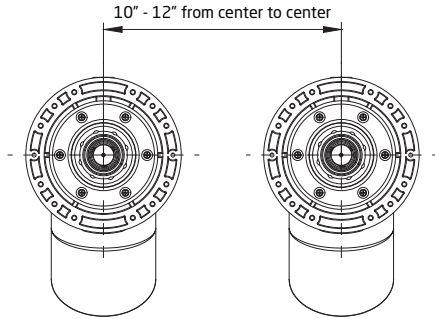

Figure 1
- For two and three jet systems, the jet housings **must be installed as close to 10" center to center as possible for maximum performance. DO NOT install the jet housing more than 12" apart on center.** (See Figure 1 & 1A)